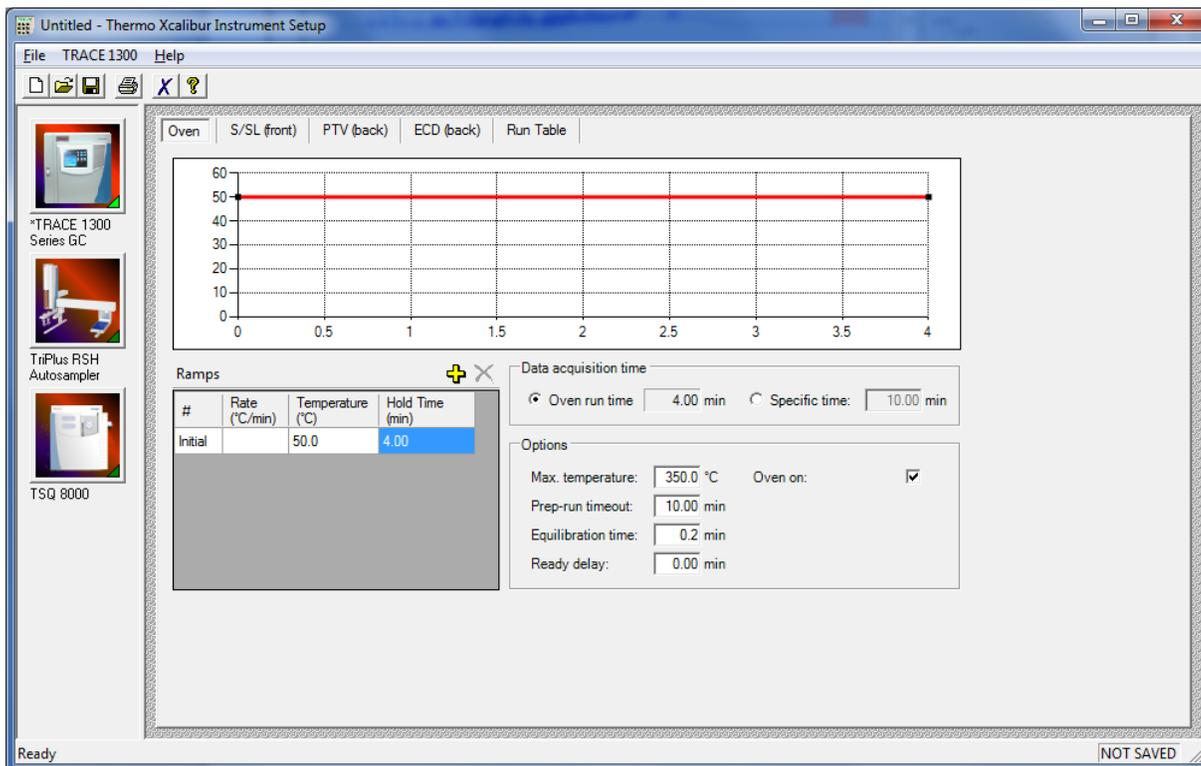

Figure 6. A GC method for acquiring an external calibration standard
Step 1 - The GC Ramp: This is actually very easy. Set a basic ramp and hold it at a low isothermal temperature for a few minutes. In this example we're going to hold the oven at 50 °C for 4 min total (Figure 6).